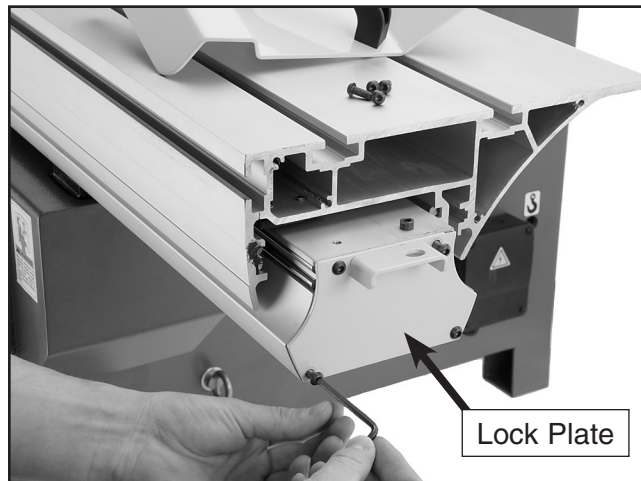

Figure 40. Installing the lock plate.
2. Install the lock plate as shown in **Figure 40** using 4 of the screws removed in the previous step.